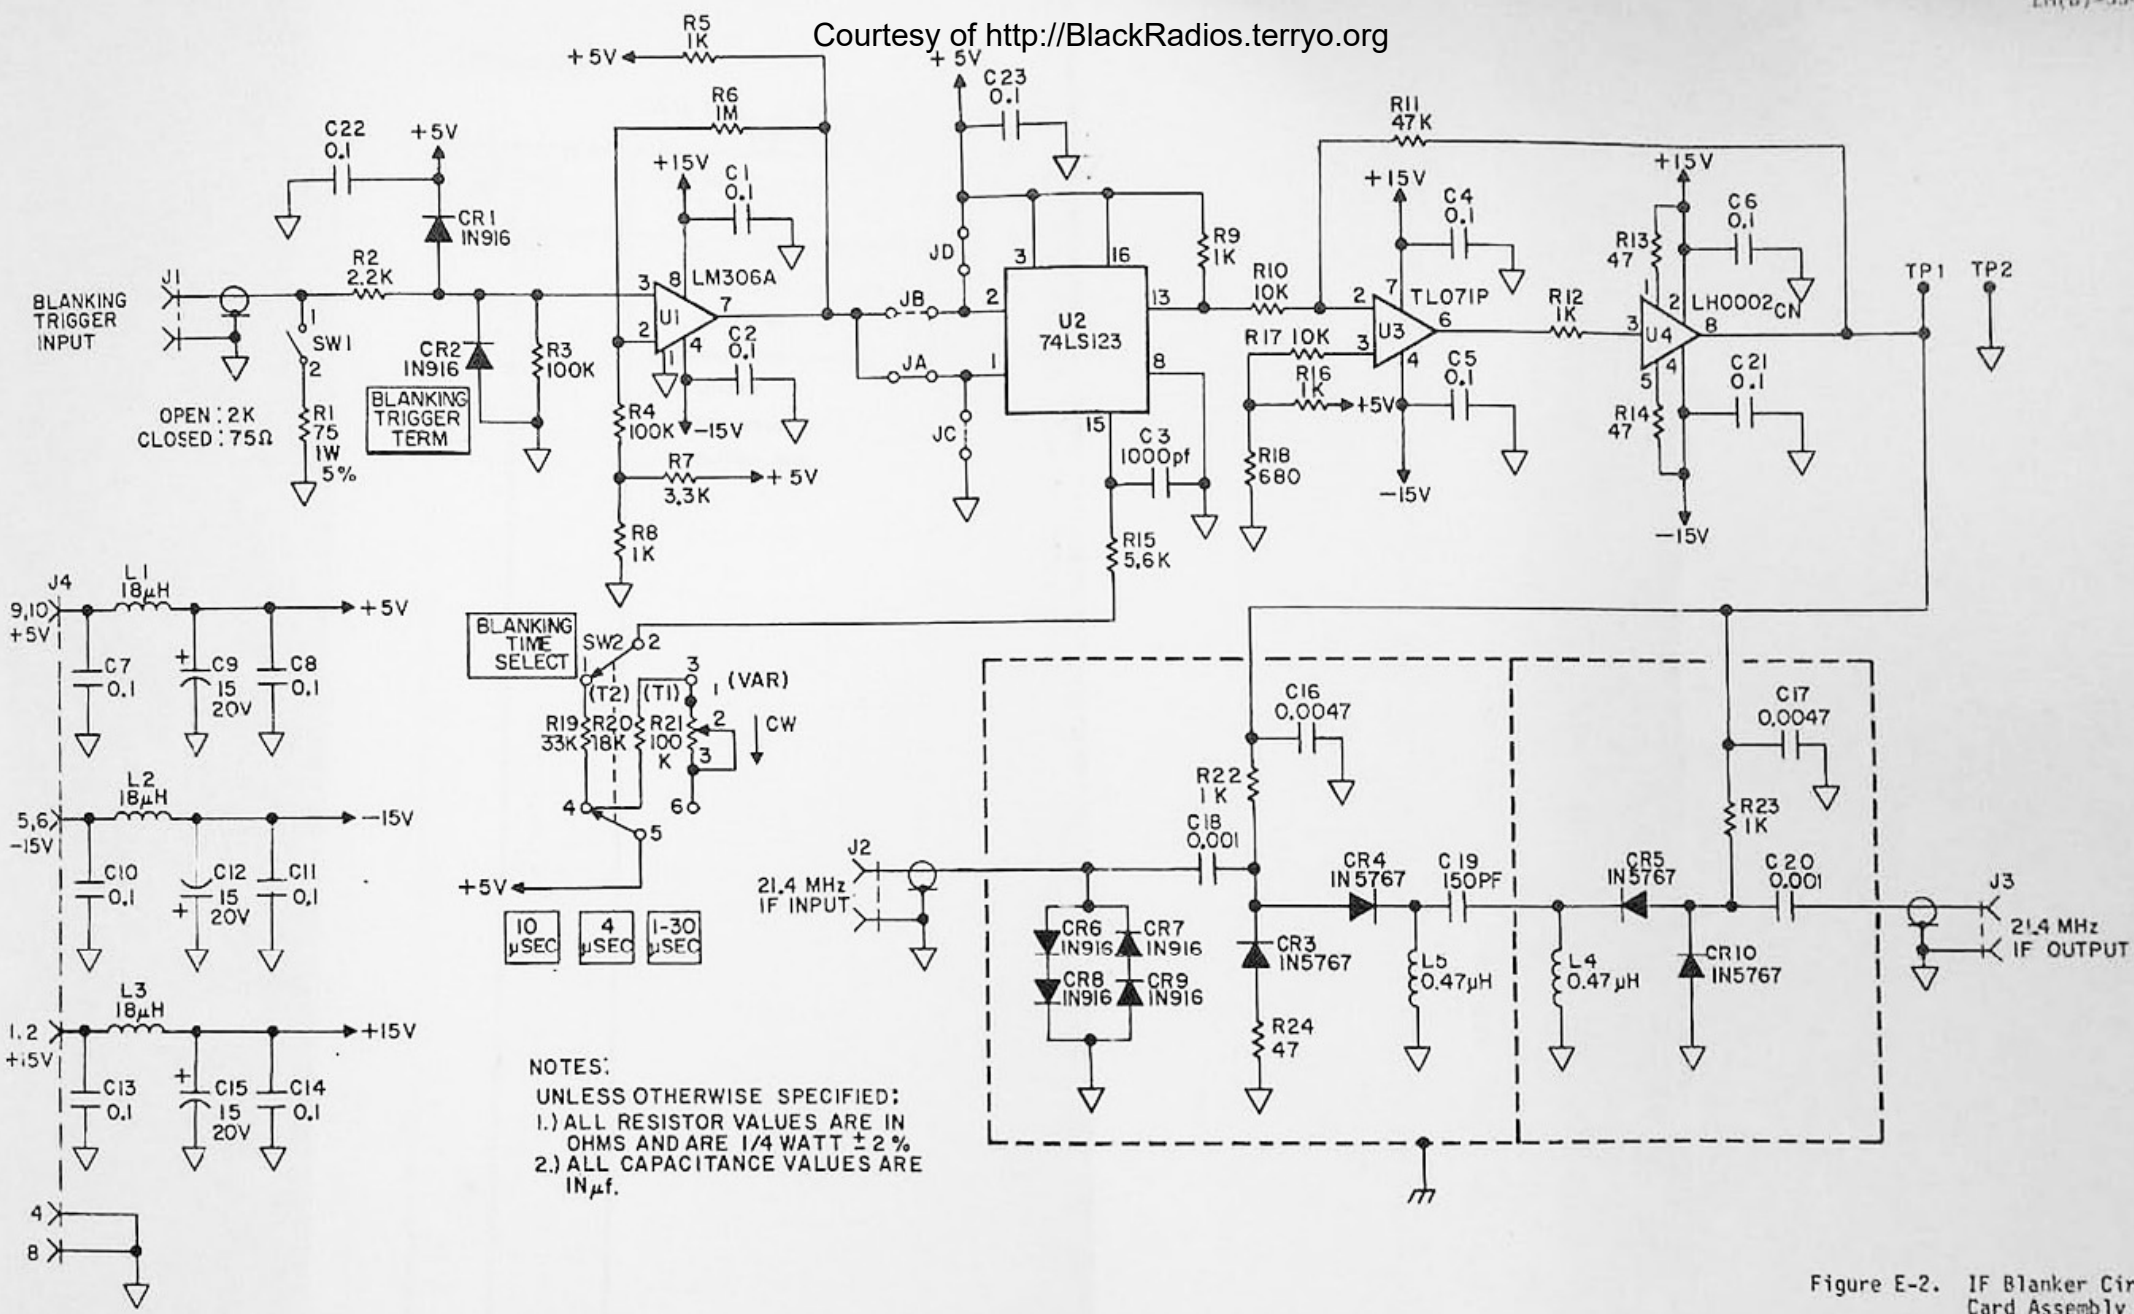

Figure E-2. IF Blanker Circuit Card Assembly (All) Schematic Diagram
**Schematic Diagram: Figure E-2 (3200017)**